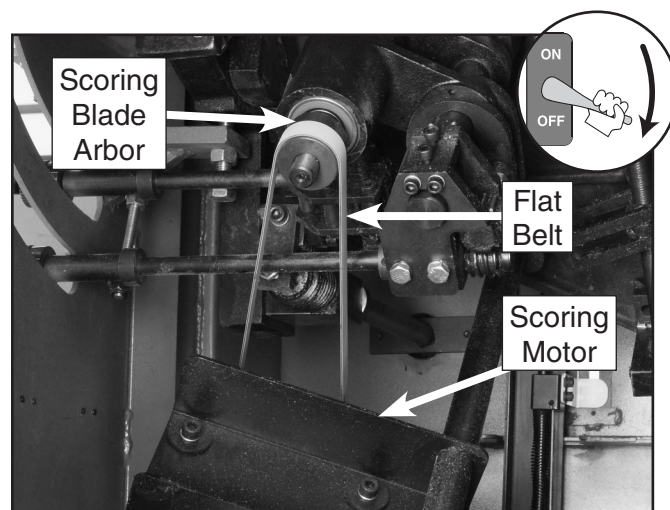

Figure 44. Flat belt installation.
- Place the flat belt on the scoring blade arbor as shown in **Figure 44**, lift the scoring motor, and slide the flat belt over the scoring motor pulley.